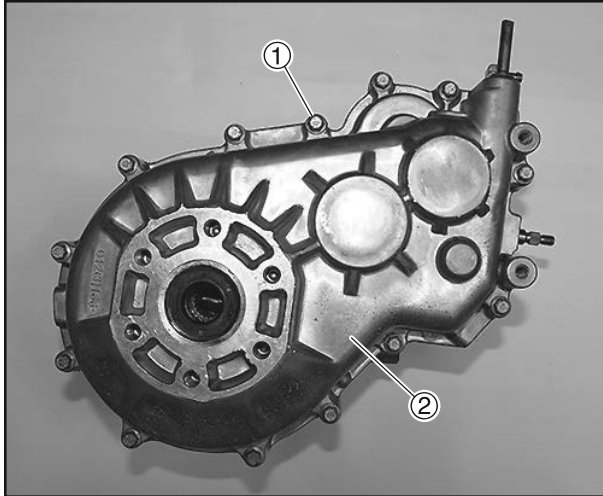

Figure 6-95
14. Install the transmission case (**Figure 6-95, (2)**) and tighten the bolts (**Figure 6-95, (1)**) and nuts.